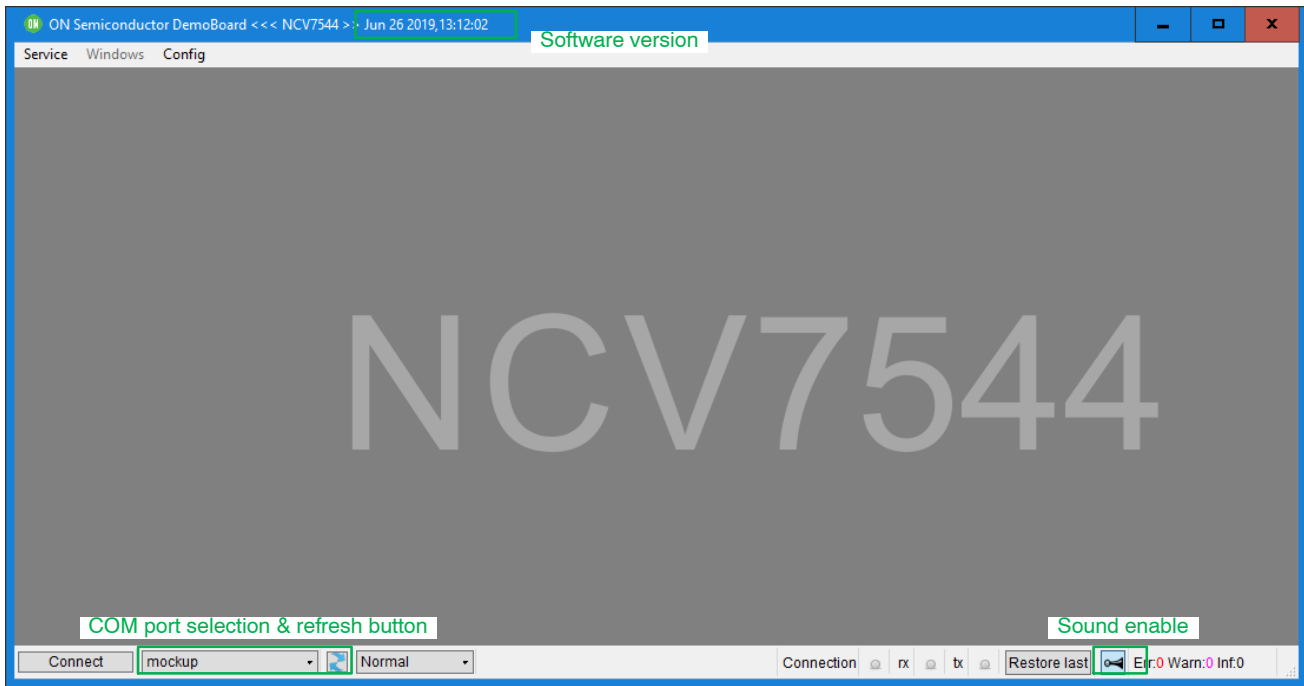

Figure 7. NCV7544 Controller Framework
6. In the startup frame select corresponding virtual COM port (see Figure 7). You may need click the Refresh button several times.